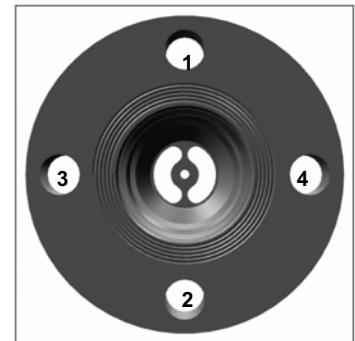

Figure 3-1 Tightening Sequence
3.3.7 Install the nuts and tighten them in 1/3-torque increments in a diagonally alternating sequence, as shown in Figure 3-1. Consult gasket manufacturer for recommended torque requirements.